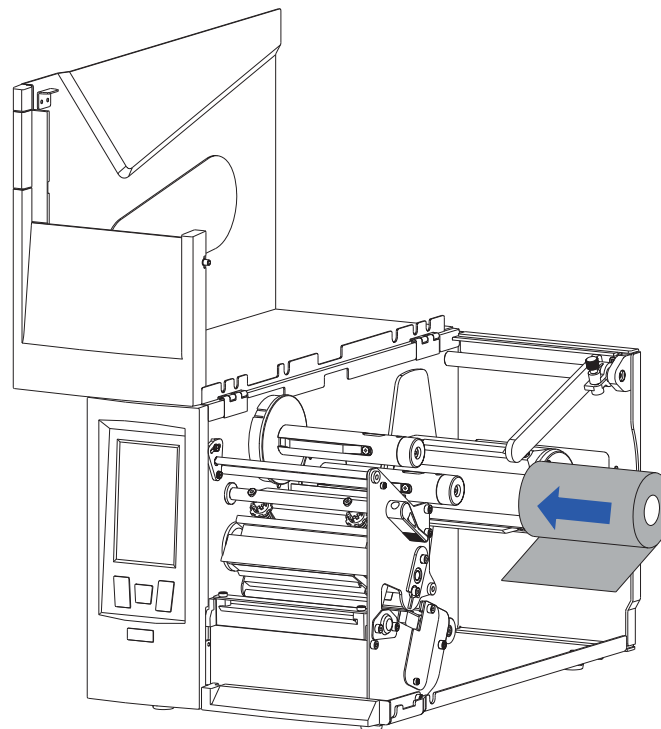

Figure 2-10 Load Ribbon Roll
4. Place the ribbon roll on the Ribbon Supply Spindle, see Figure 2-10. Make sure that the ribbon roll is firmly pushed against the Stop Plate.